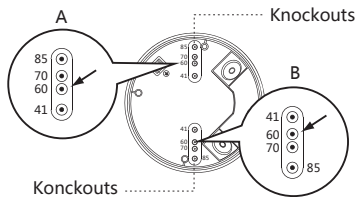

FIG.13-A
- There are 4 pairs of knockouts with various distances from 41mm to 85mm on the bottom cover of combined junction box KDP3/5 FP can be selected for different mounting applications (See FIG.13-A). Select two same figures on both ends for the corresponding distance for fixing (See FIG.13-B).